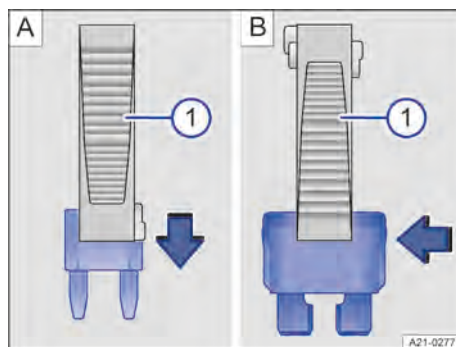

Fig. 184 Removing or inserting fuse (illustration).
- ① Plastic pliers.
1. If applicable, take the plastic pliers → Fig. 184 ① out of the fuse box cover.
2. Insert the plastic pliers ① from above for *small fuses* → Fig. 184 **A** or push the plastic pliers ① onto the fuse from the side for *larger fuses* → Fig. 184 **B**.